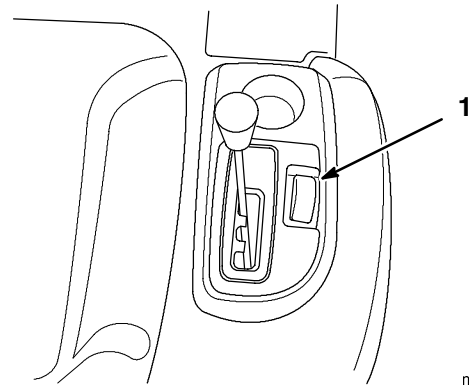

Figure 22
The cruise control is a switch (Fig. 22) on the right fender that maintains a set traction control position without foot pressure. The cruise control only operates when moving forward.
2. While holding your foot steady on the traction control pedal, push the cruise control switch (Fig. 22) to the Set position.